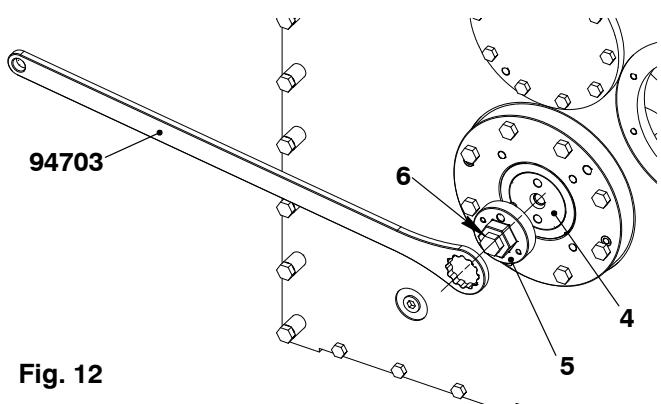

Fig. 12
- 3) The service hole (8) to measure the backlash between motor pinion and lower gear wheel is reachable from inside the engine.
- 4) Remove the four screws (7) on the lower bearing cover (6) at the outer side.
- Install the socket insert (5, Fig 12) with the screw (6) on the pin (4) of the lower bearing. Tighten the screw (6) with 100 Nm.